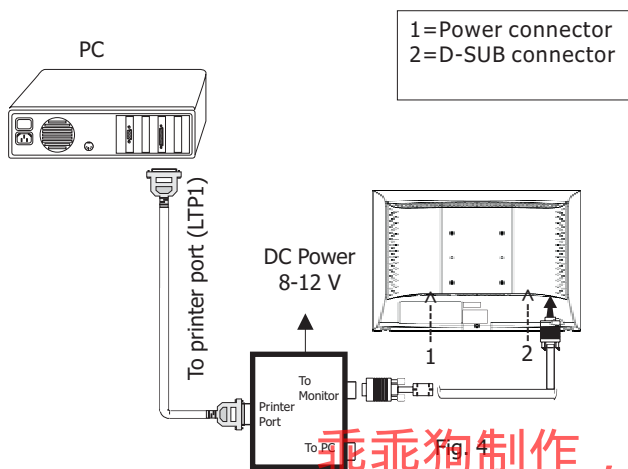

Fig. 4
- Step 2: Connecting printer cable and D-Sub cable of monitor as Fig. 4